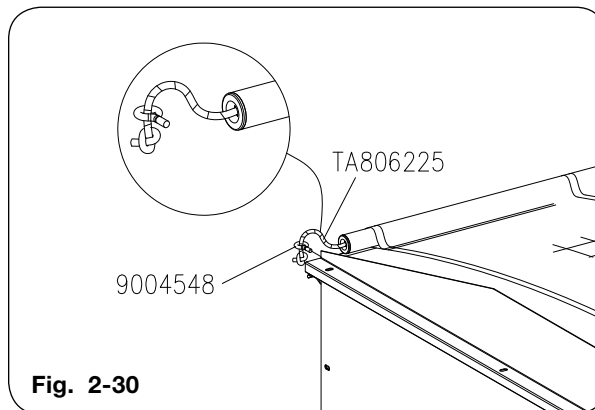

Fig. 2-30
13. Unroll the tarp making sure hose (TA806225) remains over end of stretch cord. Insert stretch cord through the top of the eye bolt (9004548). With the tarp rolled up under the latch plate, leave 2 or 3 inches of slack in the stretch cord and knot below the eyebolt. Cut off additional cord a couple inches below the knot. To keep cord from fraying, use a lighter to heat and sear loose strands. See Fig. 2-30.